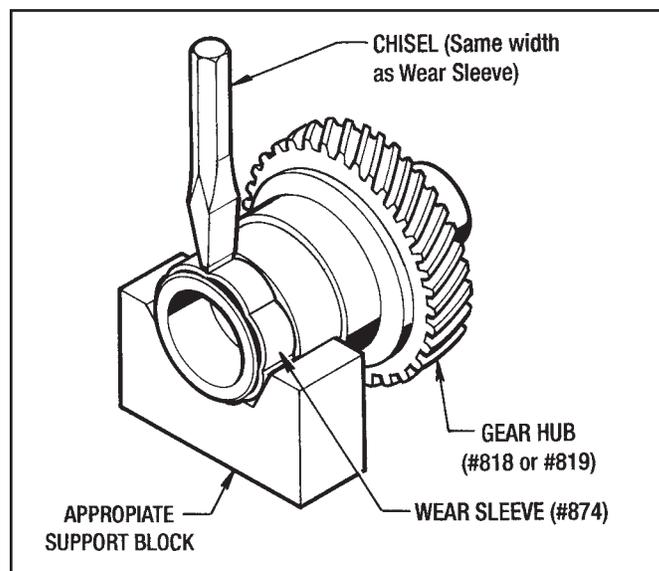

Figure 6.12 - Removing Wear Sleeve (#874)
1. Removal of the (2) Wear Sleeves (#875) from both Input Shafts (#820) and (#821) is accomplished by pulling the Bearing Cones (#808) and (#809) off with a bearing puller.
*(See Figure 6.12)*